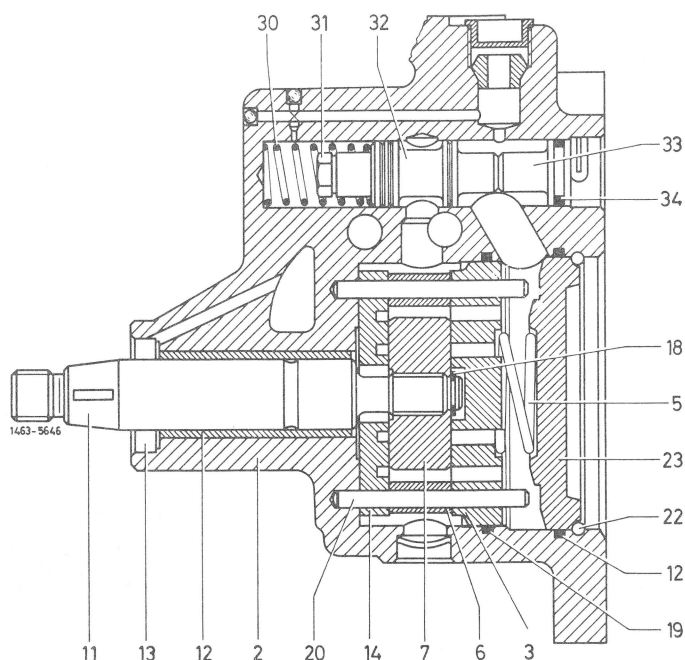

Fig. 2
6 On power steering pump VT 49, check drive shaft (11) and bearing bushing (12) for wear. Install bushing (12) from repair kit „drive shaft“, if required (Fig. 2 and 3).